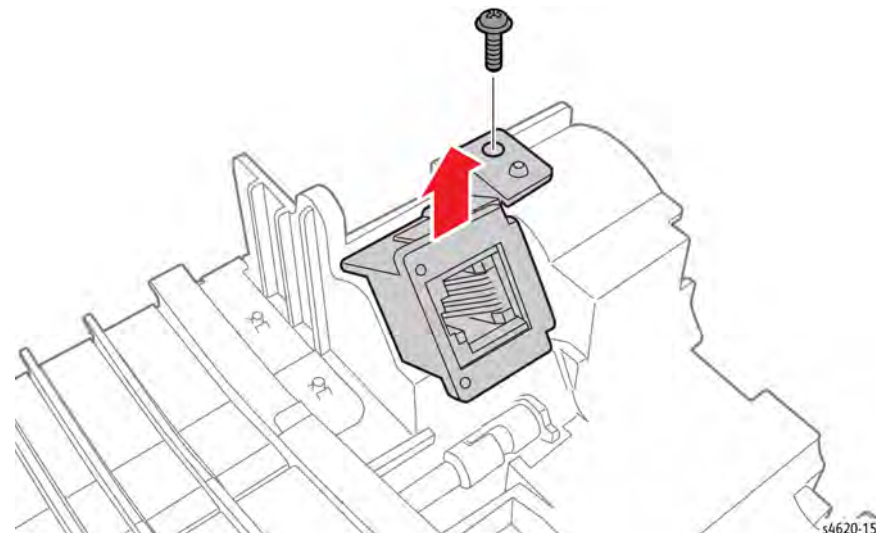

Figure 2 Remove the Drum Cartridge CRUM Connector
7. Release 2 hooks that secure the connector in the holder, Figure 2.